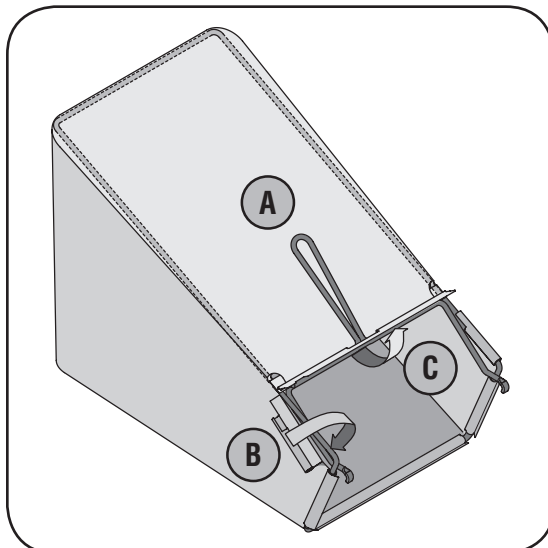

Figure 3-3: Assemble the grass catcher.
- b. Slip plastic channel of grass bag over hooks on the frame. See Figure 3-3. All the plastic channels except center top of bag attach from outside of bag.